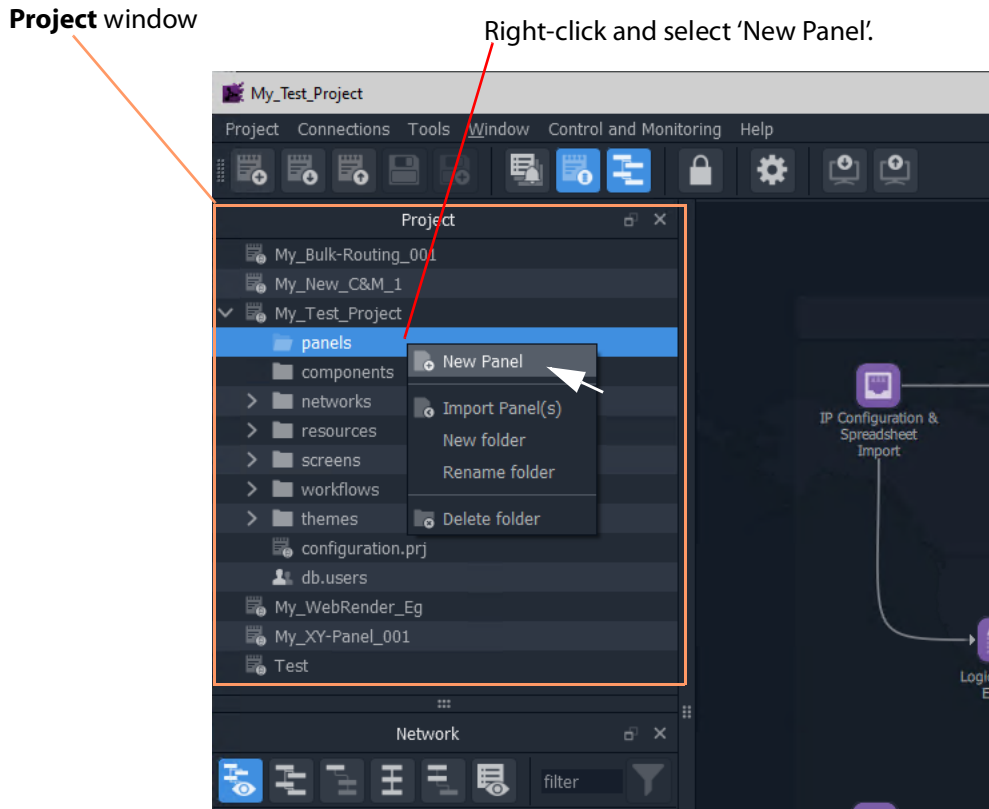

Fig. 12-6: Create a New XY Routing Panel
- 2 Right-click on the 'panels' folder and select 'New Panel'. See Figure 12-6.